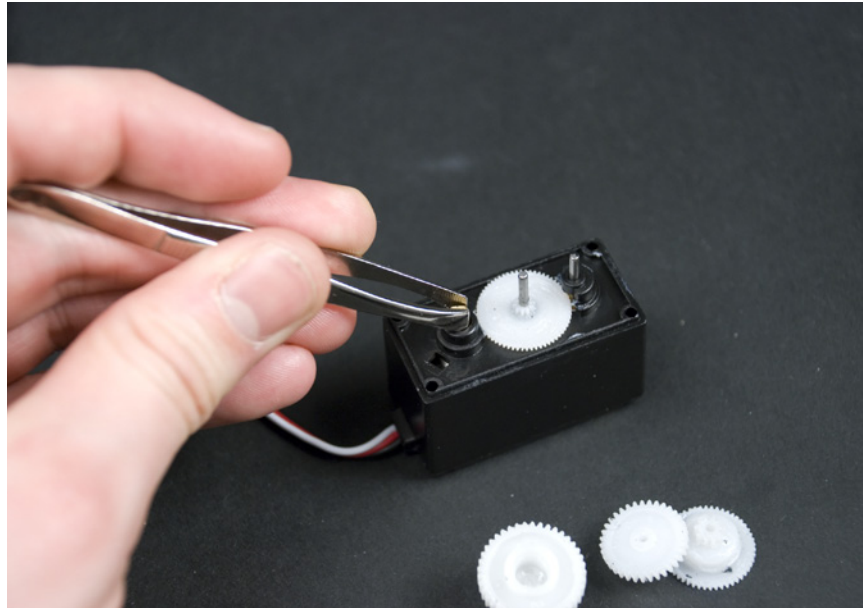

Figure 8-15. Adjusting the potentiometer to the center
8. Using small needle-nose pliers, rotate the shaft of the potentiometer right and left to determine its range of movement. Turn it to its center position, as shown in Figure 8-15. This way, the servo thinks that it is always centered, and it will be able to rotate continuously. To make sure it's calibrated,